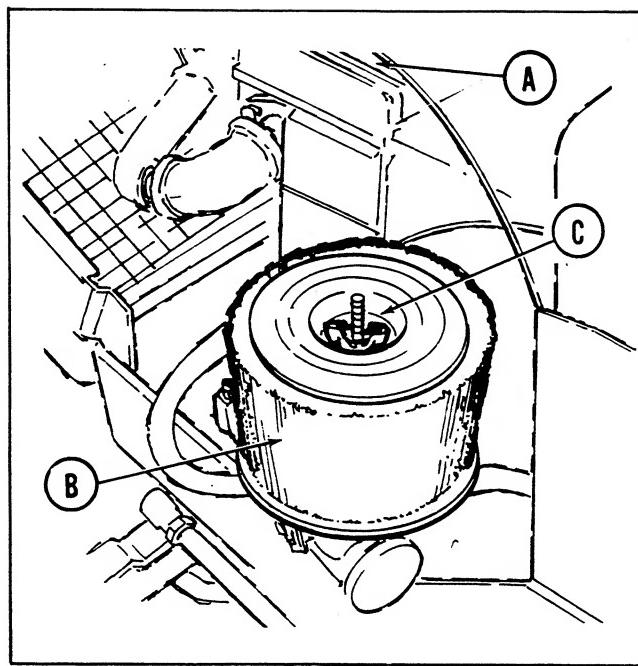

Figure 21. Air cleaner with cover removed on left side of engine.
See figure 21. All grass and chaff should be removed from the engine fins (A). CAUTION: THE ENGINE FINS ARE VERY HOT AFTER THE ENGINE HAS BEEN OPERATED. DO NOT TOUCH THEM UNTIL THE ENGINE HAS BEEN ALLOWED TO COOL. NEVER SPRAY WATER ON A HOT ENGINE.
2. See figure 21. Remove the foam precleaner (B) and wash it in liquid detergent and water and squeeze dry.
4. Install the foam precleaner as shown in figure 21.
CLEAN OR REPLACE AIR FILTER ELEMENT: The engine air cleaner is made up of two types of filters. The foam filter (Figure 21, item B) and a dry filtering element. The foam element should be cleaned and oiled every 25 hours as explained under the Every 25 Hour Maintenance Services. Once a year or every 100 hours, whichever occurs first, the paper element should be removed and cleaned or
2. See figure 21.. Remove the foam element (B) and clean and oil it as described in the Every 25 Hour Maintenance Service.
3. Remove wing nut (C) and remove the paper element from the air cleaner.
5. See figure 21. Replace the paper element and wing nut (C) and tighten it securely.
6. Install the foam element (B) over the paper element as shown in figure 21.